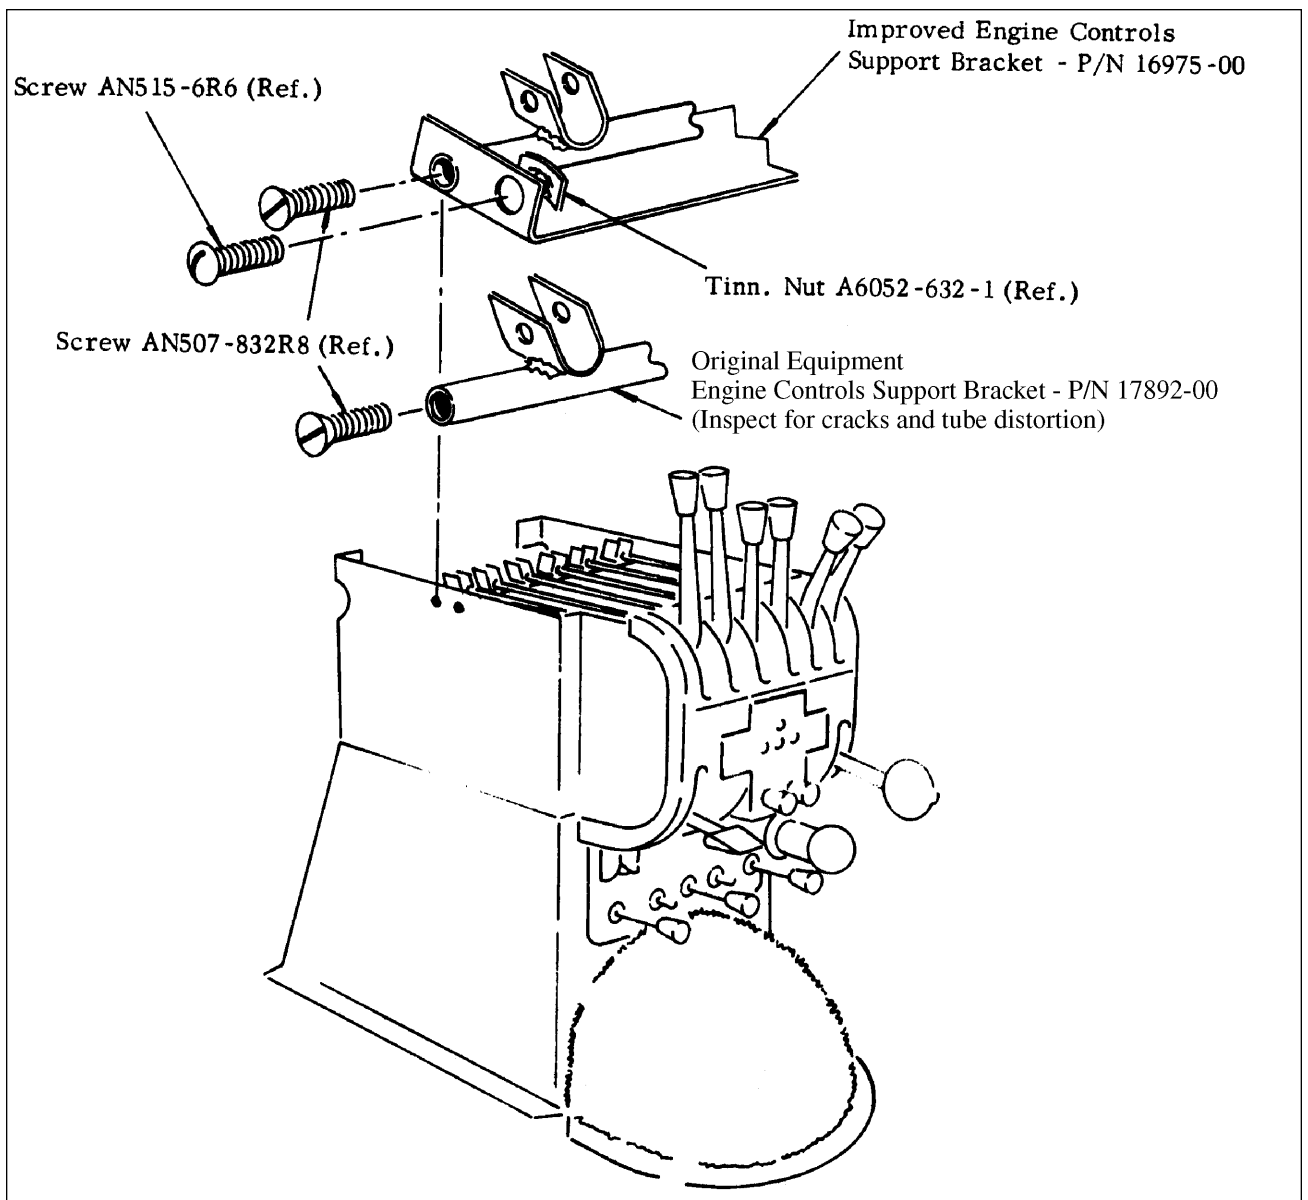

Figure 3-4. Engine Controls Support Bracket Inspection
- (6) 100 HOUR ENGINE CONTROLS SUPPORT BRACKET INSPECTION. (See Figure 3-4.) In PA-23-250's S/N's 27-1 thru 27-140 only, for those airplanes which have not installed the improved Engine Controls Support Bracket Assembly, P/N 16975-00, each 100 hours or annually, whichever comes first, inspect the original equipment engine controls support bracket assembly, P/N 17892 -00, as follows: